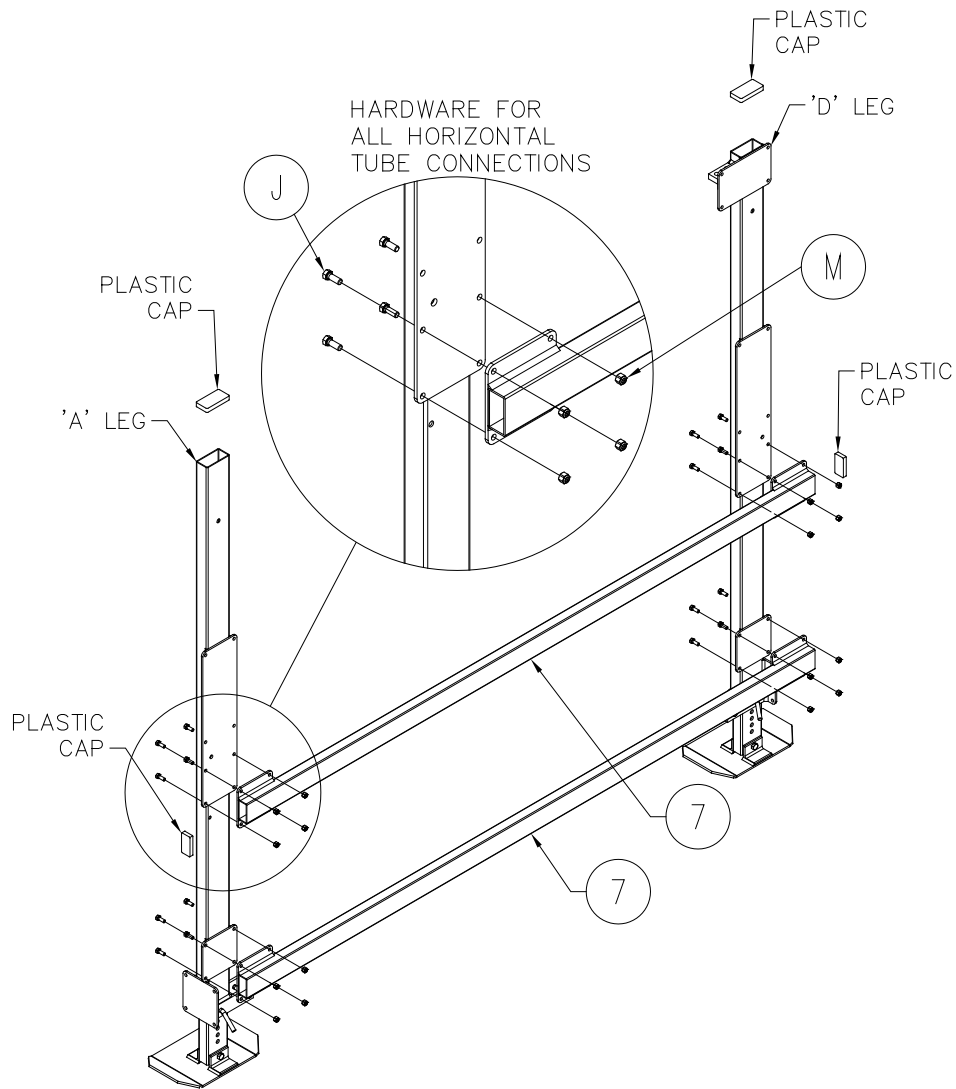

Figure 3-4.
1. Refer to Figure 3-4. Fasten a pair of short horizontal tubes between vertical legs A and D with hardware shown. **DO NOT TIGHTEN.**
5. Fasten a long horizontal tube across each end to connect the two sides using hardware shown in Figure 3-4. **DO NOT TIGHTEN.**
7. Install the eight (8) plastic caps provided onto the tops of the four vertical legs and the ends of the upper short horizontal tubes. See figure 3-4.